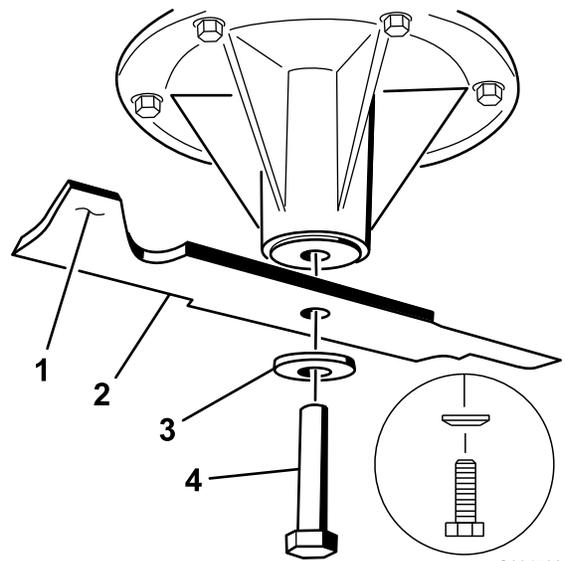

Figure 73
2. Install the blade onto the spindle shaft (Figure 73).
3. Install the curved washer and blade bolt (Figure 73).
Note: The curved washer cone must be installed toward the bolt head (Figure 73).